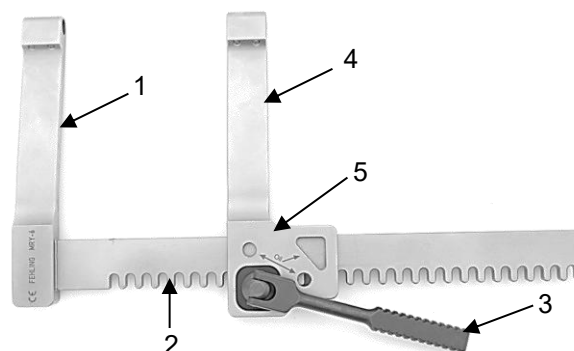

Fig. 14
Figure 14 illustrates the MARJAN MGH retractor, which is a U-shaped bar retractor with pinion. The bar retractor consists of one fixed retractor arm (1), a toothed rack (2) and one movable retractor arm (4).